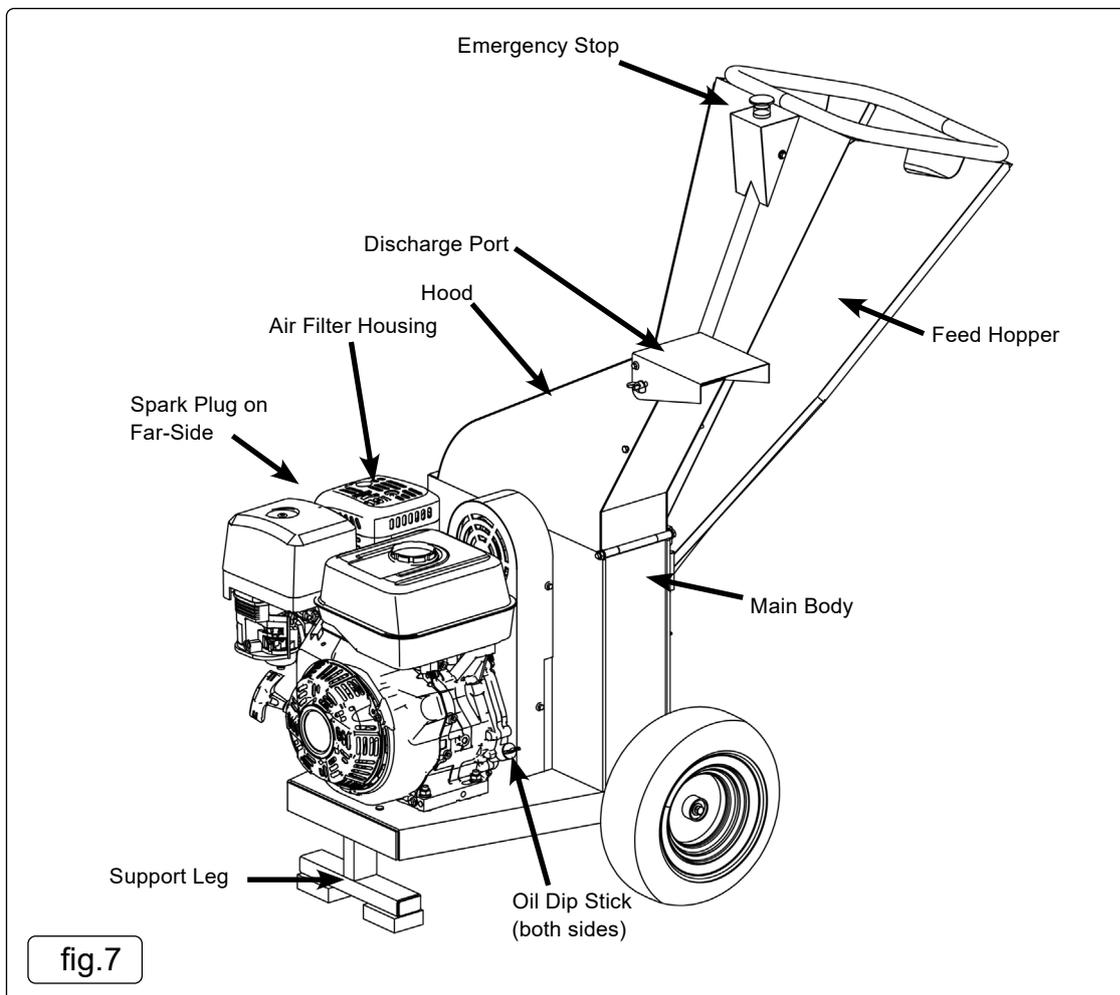

fig.7
- 5.9. **EMERGENCY STOP (fig.7)**
- 5.10.1. Check oil and fuel (fig.7). **NOTE: THE ENGINE IS NOT SUPPLIED WITH OIL.**
- 5.10.5. Prepare Emergency Dead Stop switch (fig.7).
- 5.12.2. Inspect unit before each use or at the start of each shift. The disc hood (fig.7) should be closed and latched. Check the infeed chute for foreign objects. Make sure bolts and pins are tight. Inspect the knives for wear or damage. Running the chipper with worn or damaged knives can cause the feed to clog and eventually kick debris back through the feed hopper chute.
- 6.7. **AIR FILTER SEE FIG. 7**
- 6.7.2. Open and remove the air filter cover, see fig. 7.
- 6.7.3. Remove the filter elements, see fig.7. **DO NOT** use abrasive cleaning agents or petrol to clean the elements. Clean the elements by tapping them on a flat surface. In cases of stubborn dirt first clean with soapy water, then rinse with clear water and air dry.
- 6.8. **SPARK PLUG** see fig.7 Check the spark plug for dirt and grime after 20 hours of operation and if necessary clean with a copper wire brush. Thereafter service the spark plug after every 50 hours of operation.
- 6.10. **CHANGING THE OIL AND CHECKING THE OIL LEVEL** see fig.7.
- 6.10.1. Check oil level before using the machine. see fig.7.